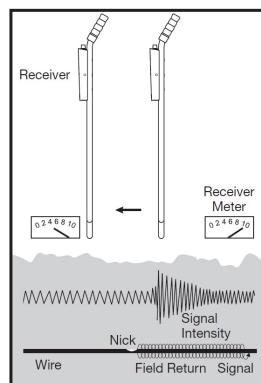

FIGURE 4: Locating Wire Nick
- Larger nicks in the wire can be located in the same way as locating cut wires. Follow the null and strong signal along the sides of the wire until the signal becomes very weak along the sides of the null. This will occur within a relatively short distance. The transmitted signal bleeds to ground at the nick and then wants to return to the ground stake along the outside of the wire itself. The majority of the signals will stop at the nick indicated by the low receiver reading just beyond the nick. (Refer to Figure 4)